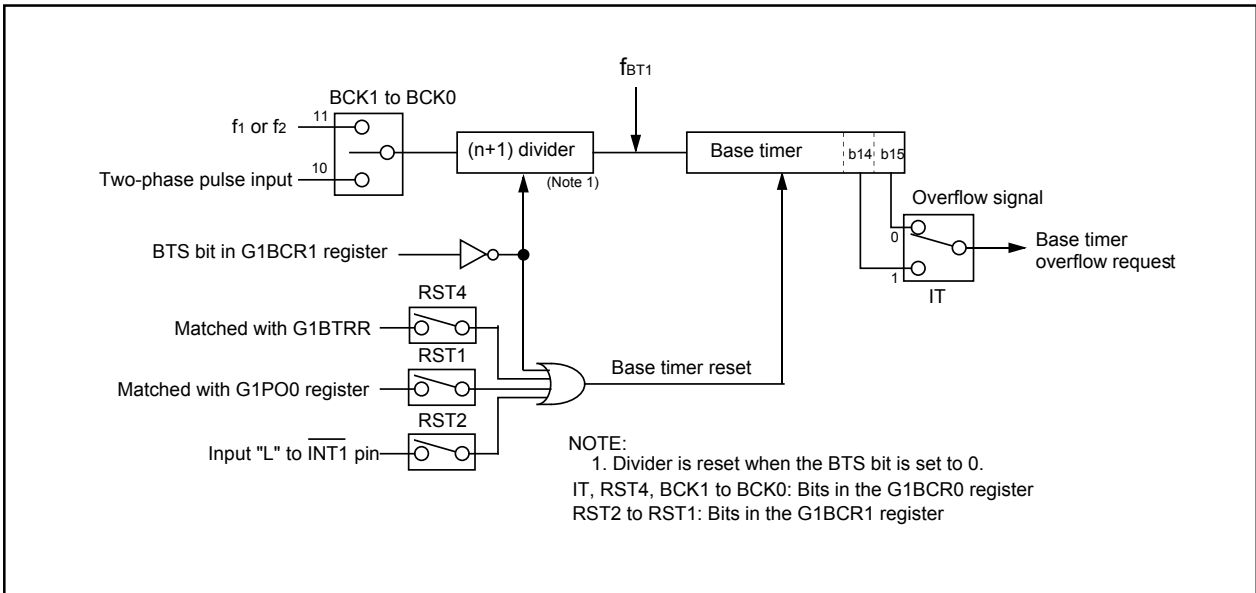
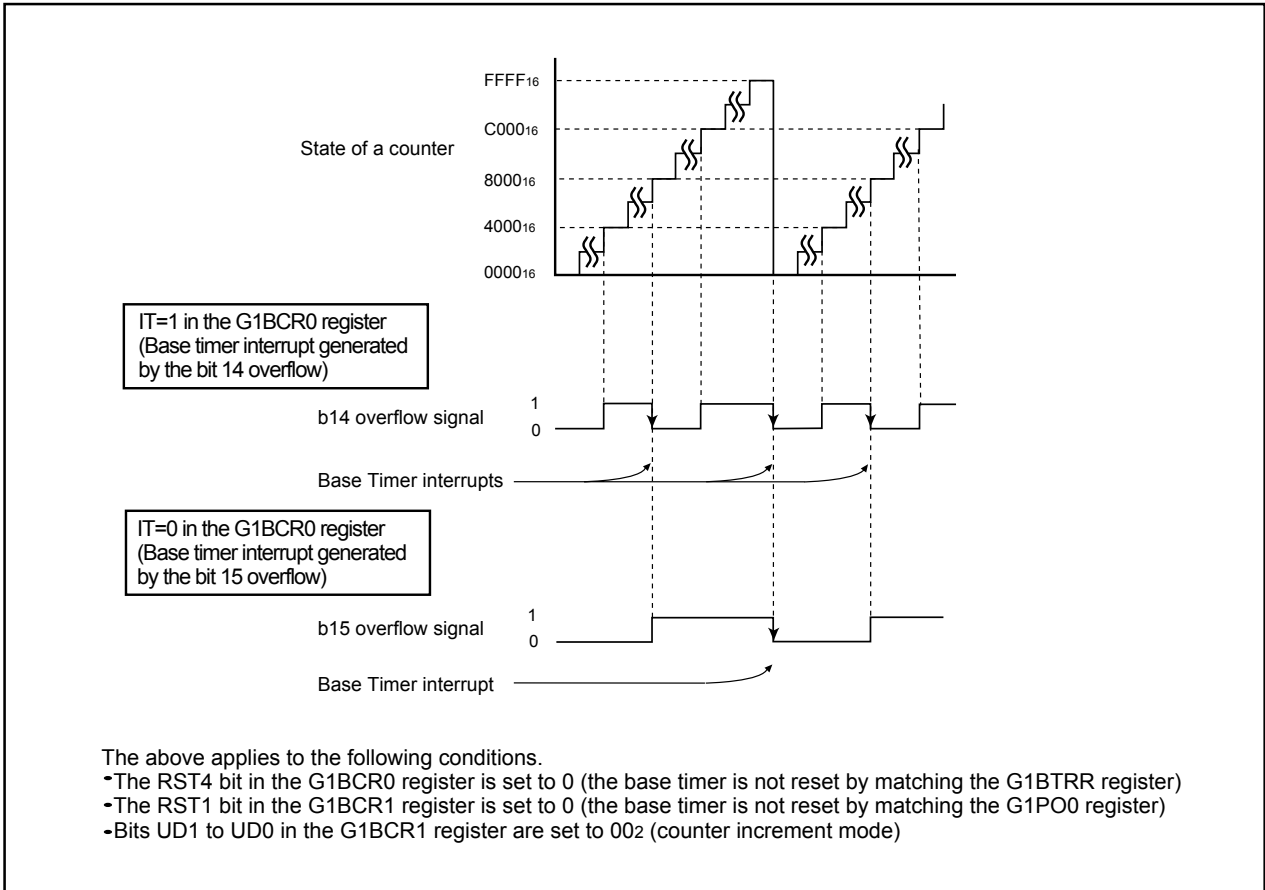
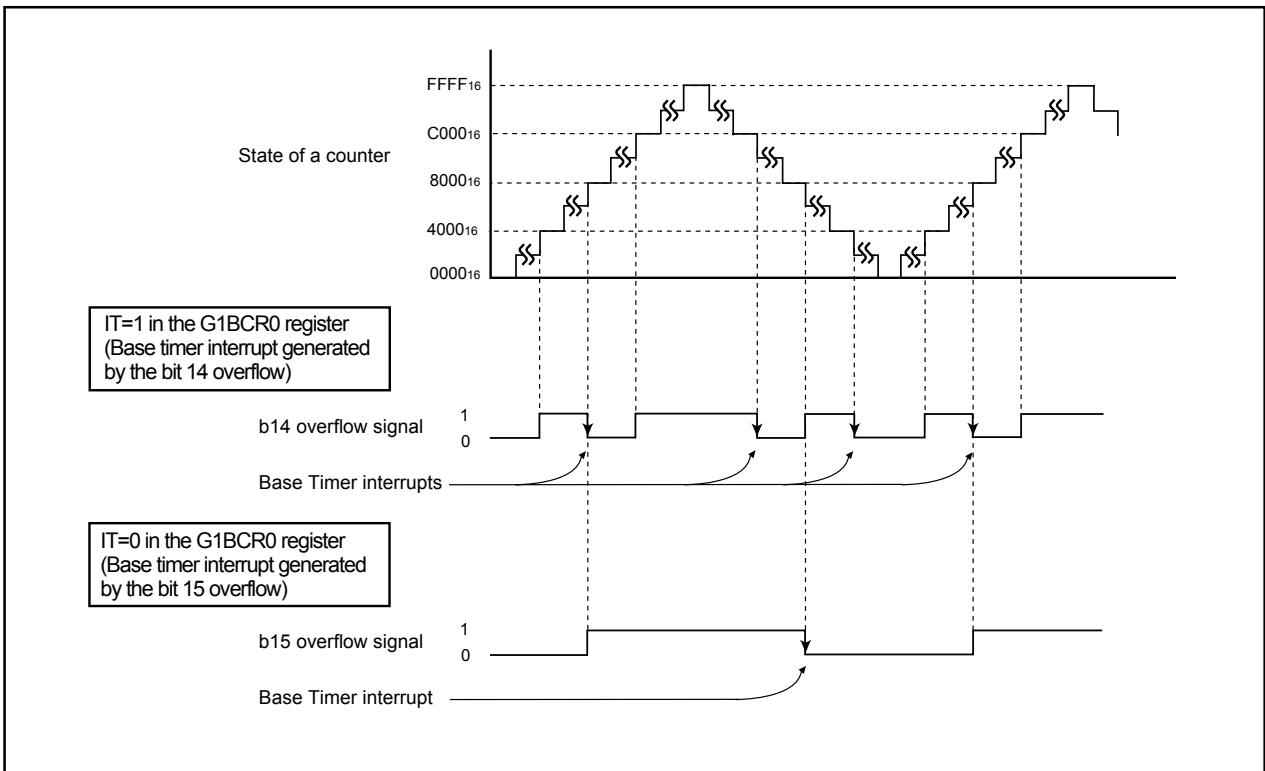
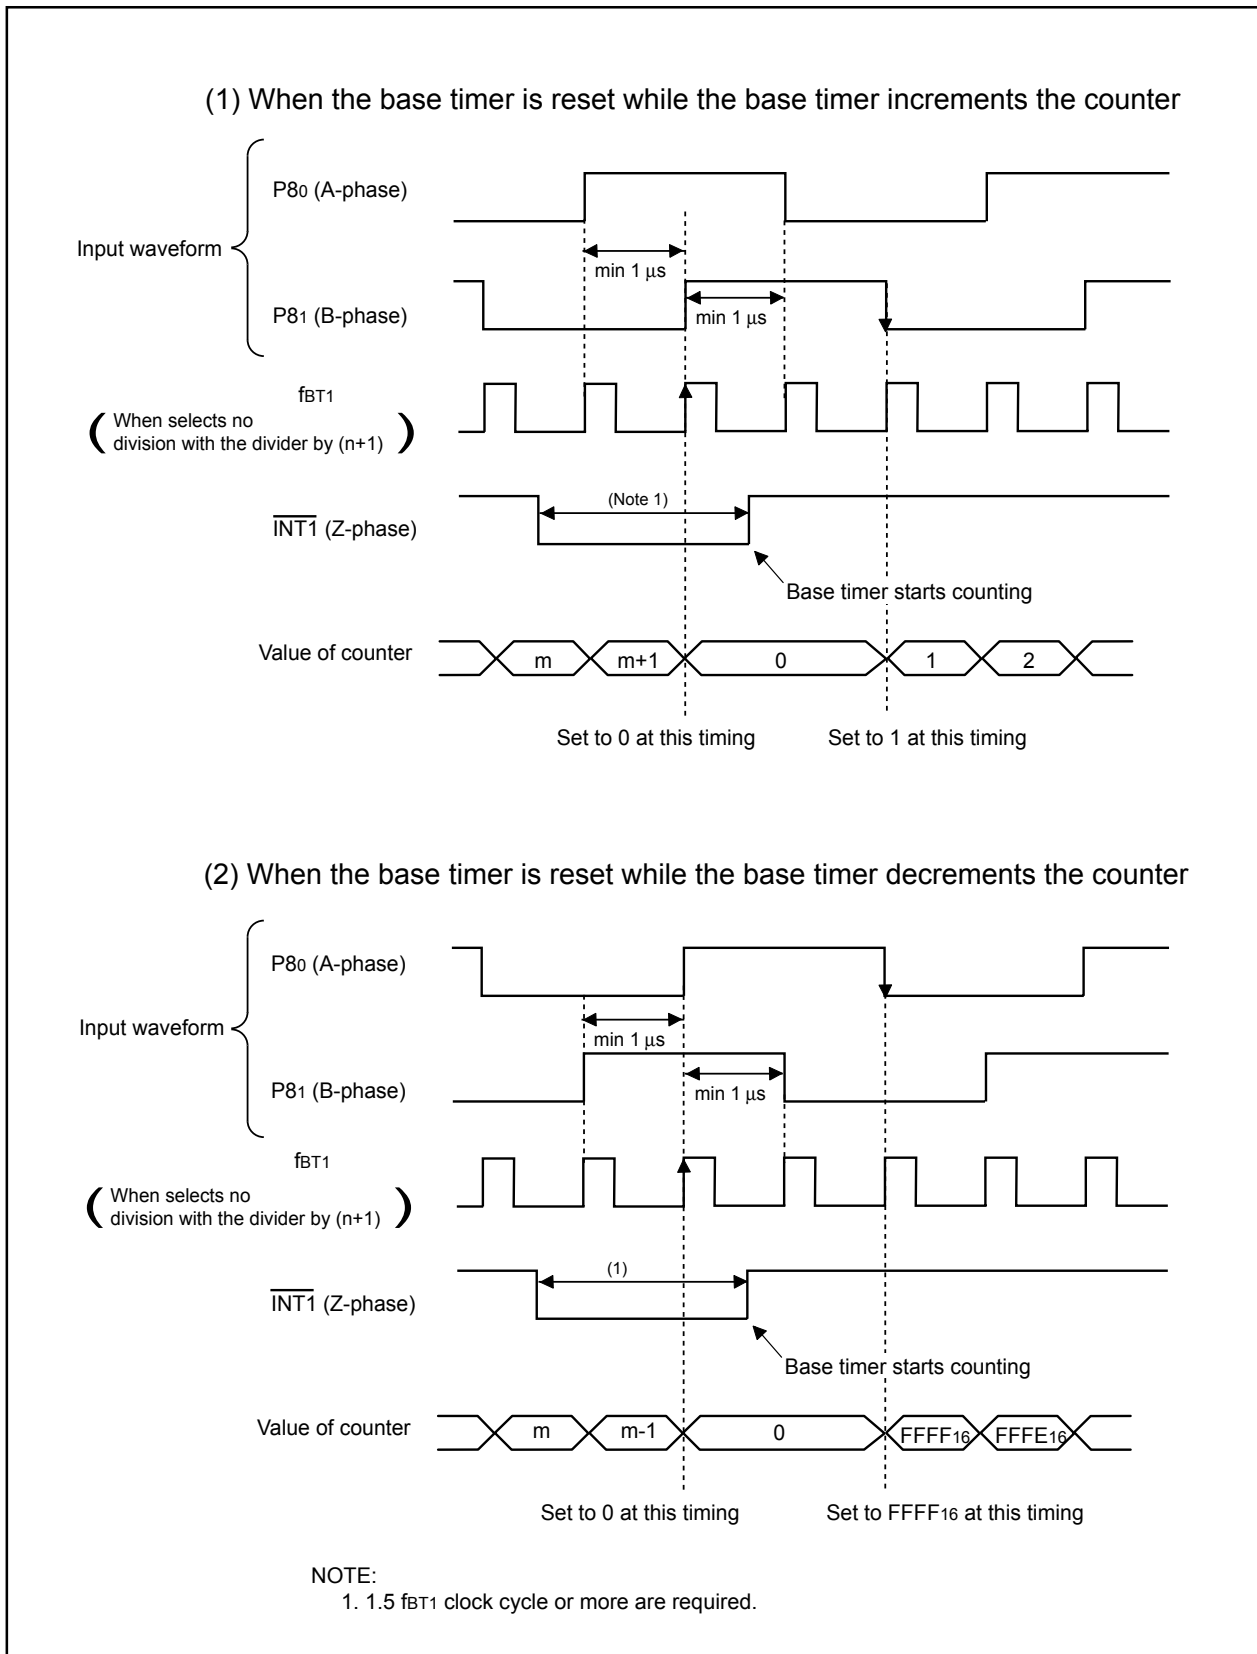

Figure 13.11 Base Timer Block Diagram
Figure 13.12 Counter Increment Mode
Figure 13.13 Counter Increment/Decrement Mode
Figure 13.14 Base Timer Operation in Two-phase Pulse Signal Processing Mode
**Figure 13.11** shows a block diagram of the base timer. **Figure 13.12** shows an example of the base timer in counter increment mode. **Figure 13.13** shows an example of the base timer in counter increment/decrement mode. **Figure 13.14** shows an example of two-phase pulse signal processing mode.
Selectable function	<ul style="list-style-type: none"> <li>Counter increment/decrement mode The base timer starts counting from 000016. After incrementing to FFFF16, the timer counter is then decremented back to 000016. The base timer increments the counter value again when the timer counter reaches 000016. (See Figure 13.13)</li> <li>Two-phase pulse processing mode Two-phase pulse signals from pins P80 and P81 are counted (See Figure 13.14)</li> </ul> <div style="text-align: center;"> <p>The timer increments a counter on all edges      The timer decrements a counter on all edges</p> </div>